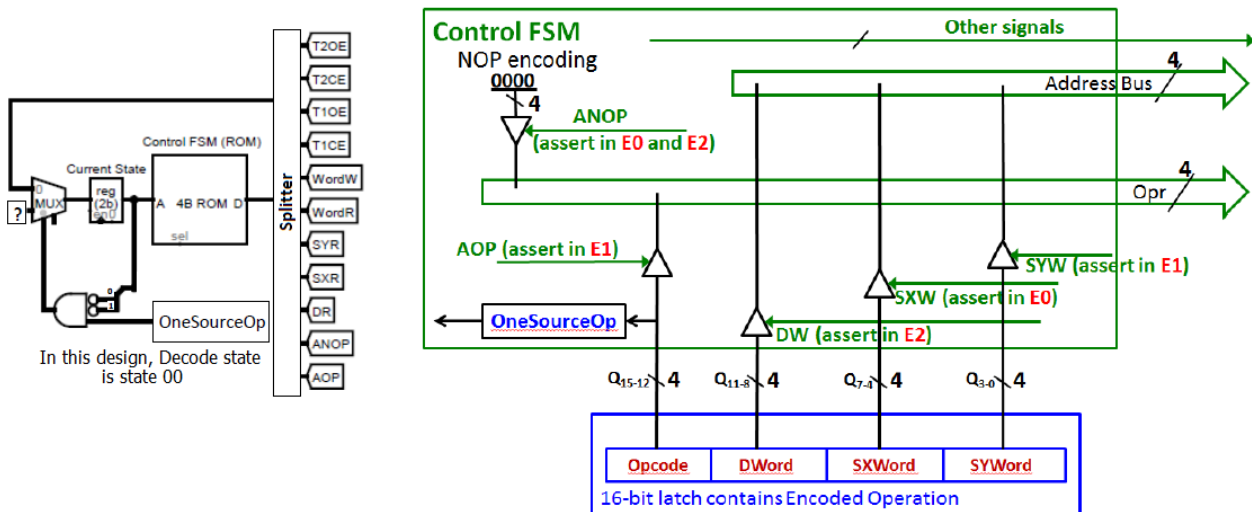

Figure 34: Encoded Operation in Control FSM
An encoded operation latch can be added to the circuit to generalize the (Mealy) Control FSM, as shown in Figure 34. The introduction of the latch enables a single Control FSM to execute every operation. When further developing the circuit into the microarchitecture, the memory words and encoded operation latch are renamed to registers and the Instruction Register (IR), respectively. This lab uses the microarchitecture terminology (i.e. registers and Instruction Register).
Save a copy of your part I (Save as) and name it “Lab2-Part-II”. In this part you will introduce a 16-bit Instruction Register (IR) to generalize the FSM (see figure 34 above). Introducing the IR allows the same ROM contents to execute all operations. Use a Logisim Register to implement the IR, and poke values into the register as needed. You will need some tristate buffers in this part.